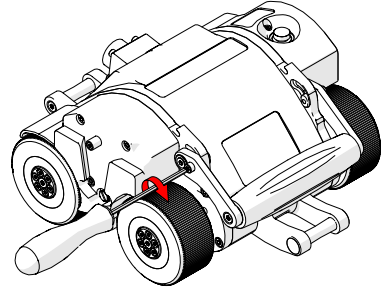

Fig. 26 - Tighten lock screws
3. Tighten the handle lock screws when complete (*Fig. 26*).